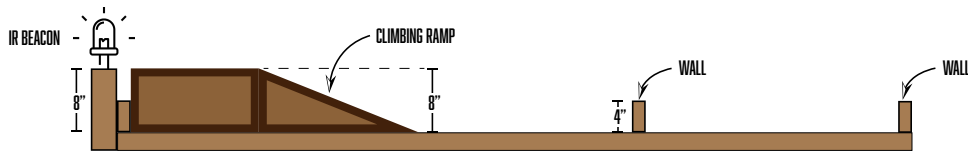

Figure 2: Side view of the field.
- ☐ There will be an IR beacon located near the SHOOTING GOAL, emitting at a height of 8 inches above the field, as illustrated in Figure 2. The beacon will pulse at a frequency of 3333 Hz.
- ☐ The CLIMBING RAMP end zone will be a 16 in by 16 in platform raised 8 in above the field. The CLIMBING RAMP itself will have a 20 in base, over which it will rise 8 in, as shown in Figure 2.